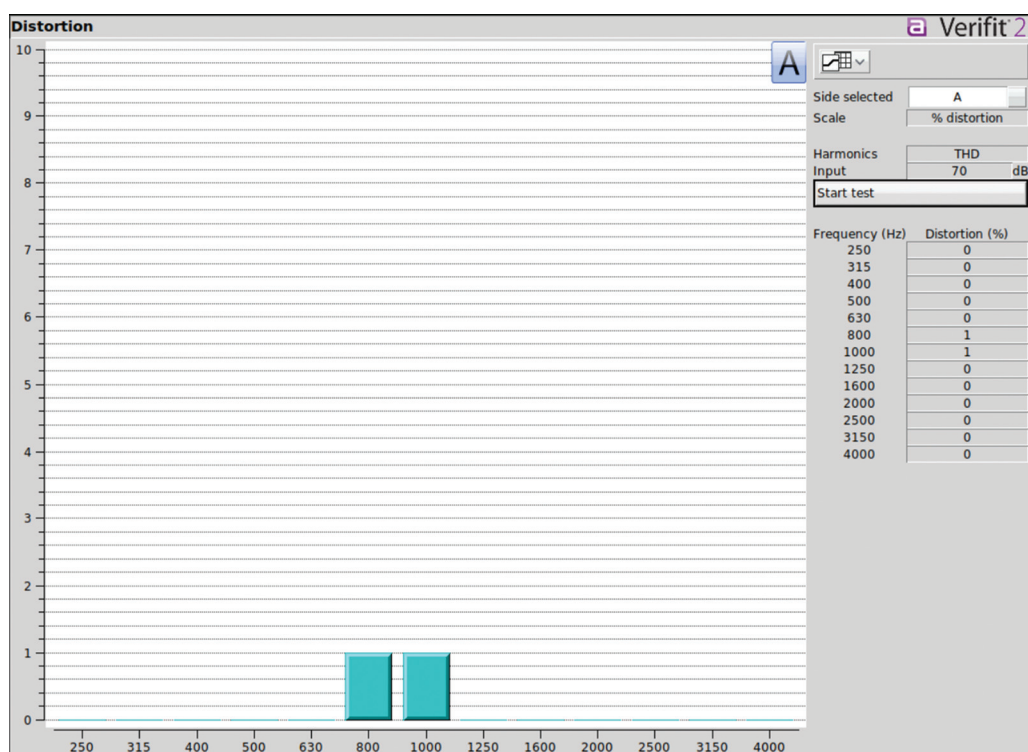

Figure 15 Example of a test of total harmonic distortion (THD) (also see Figure 1H).
9. The THD of any hearing aid should be less than 10% at each frequency. The only harmonic distortion measured for the hearing aid in Figure 15 is at 800 and 1,000 Hz. Both measurements are less than 10% (close to 1%). You would want to look at the THD results for the 85-dB SPL input as well.